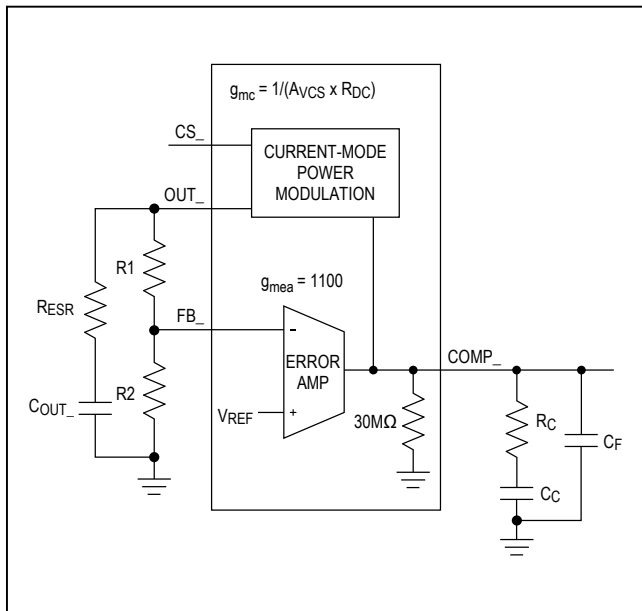

Figure 2. Compensation Network
The ICs use a current-mode-control scheme for boost controller. A single series resistor (RC) and capacitor (CC) is all that is required to have a stable, high-bandwidth loop in applications where ceramic capacitors are used for output filtering (see Figure 2). For other types of capacitors, due to the higher capacitance and ESR, the frequency of the zero created by the capacitance and ESR is lower than the desired closed-loop crossover frequency. To stabilize a nonceramic output capacitor loop, add another compensation capacitor (CF) from COMP to AGND to cancel this ESR zero.
The basic regulator loop is modeled as a power modulator, output feedback-divider, and an error amplifier, as shown in Figure 2. The power modulator has a DC gain set by gmc × RLOAD, with a pole and zero pair set by RLOAD, the output capacitor (COUT\_), and its ESR. The loop response is set by the following equations: